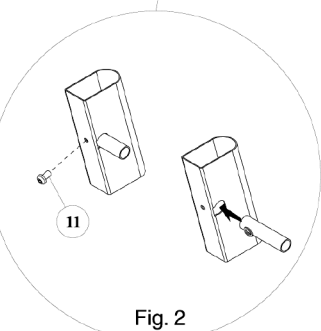

Fig. 2
- C. SELECT the round shelf support bar (4b), identified by the threaded metal inserts located near both ends. PLACE three "O" rings (14) onto the ends of the round shelf support bar (4b) and space them out evenly along the whole length of the support bar. INSERT support bar (4b) into the hole located in the middle of the upright portion of the inside LEFT side frame (1), making sure that the threaded insert is facing towards the rear of the table and is ALIGNED with the hole in the rear of the LEFT side frame. SECURE it to the LEFT side frame, from the rear, using one short screw (11) and the supplied Allen wrench, as shown in Fig. 2. DO NOT FULLY TIGHTEN THE SCREW.